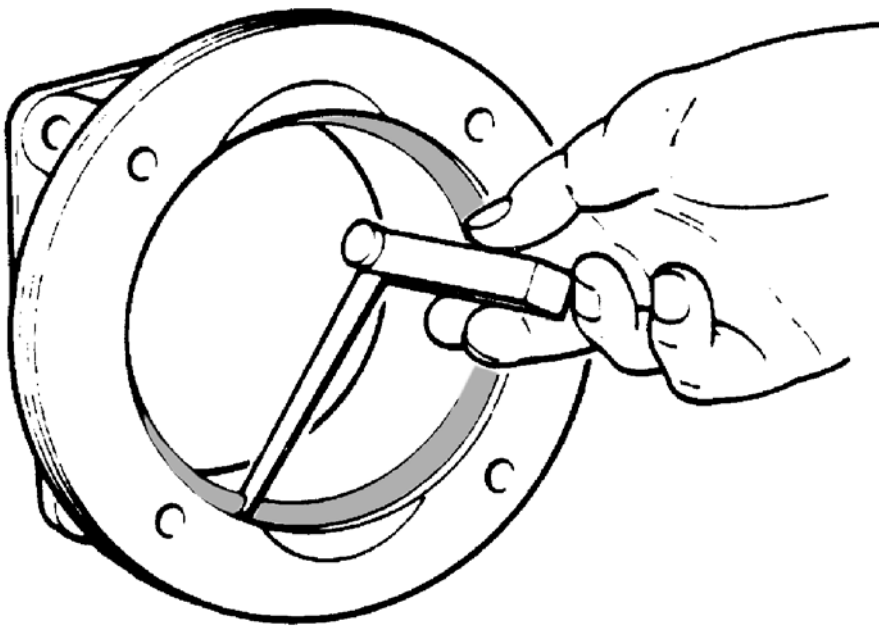

Fig. 67 Checking the piston ring gap
- Insert the piston rings in the corresponding cylinder approx. 10 mm (3/8") from the top edge. Check the piston ring gap with feeler gauge part no. N20889, see Fig. 67.